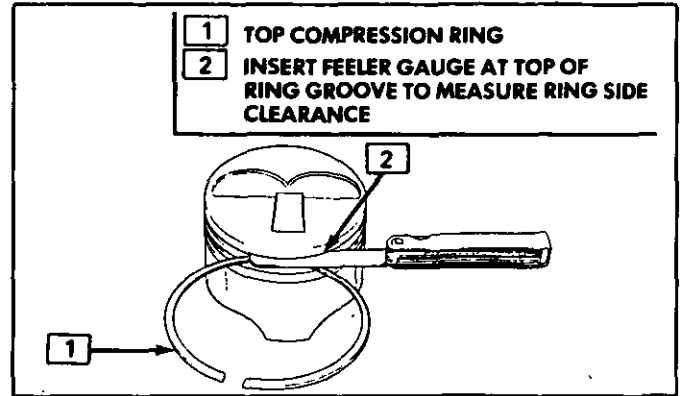

Figure 36 Measuring Piston Ring Side Clearance
- Roll the piston ring around the groove in which it is to be installed and measure the side clearance (Figure 36). If the ring is too thick, try another ring. If no ring can be found that fits the specifications (Figure 37), the ring may be ground to size with emery paper placed on a plate of glass.